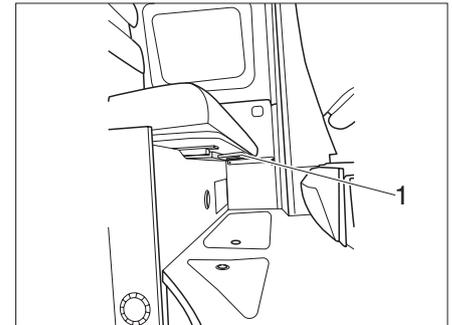

Fig. 39 Adjust bench seat
- ▶ Grip lever (Fig. 39,1) under seat and pull it forward.
- ▶ Release lever (Fig. 39,1) again.